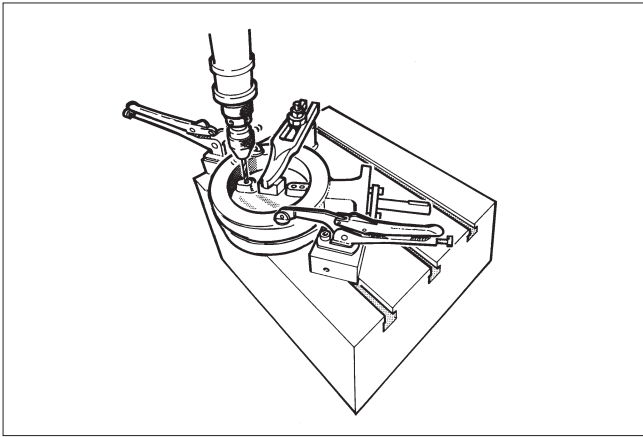

Fig. 14 Drilling the pins
- Remove the clamp ring (2) and seat ring (4) according to section 5.4.
- Set the valve horizontally on a sturdy surface so that the flat side of the disc lays against the surface (see Fig. 14).
- Drill the holes carefully to the centre of the pins (14). Choose a drill 0.2-0.5 mm smaller than the diameter of the pin.
- Dismantle the gland packing including anti-extrusionring (22) and sheet ring (21) according to Section 5.3.
- Detach the screws (26) and the blind flange (10) and remove the gasket (18).